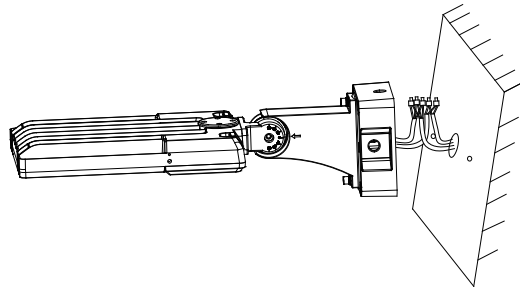

Figure 4
Step 5: Wire the fixture leads to the supply wires using UL listed wire connectors according to NEC and local Codes. (Figure 4) Push all wires into wall mount kit.